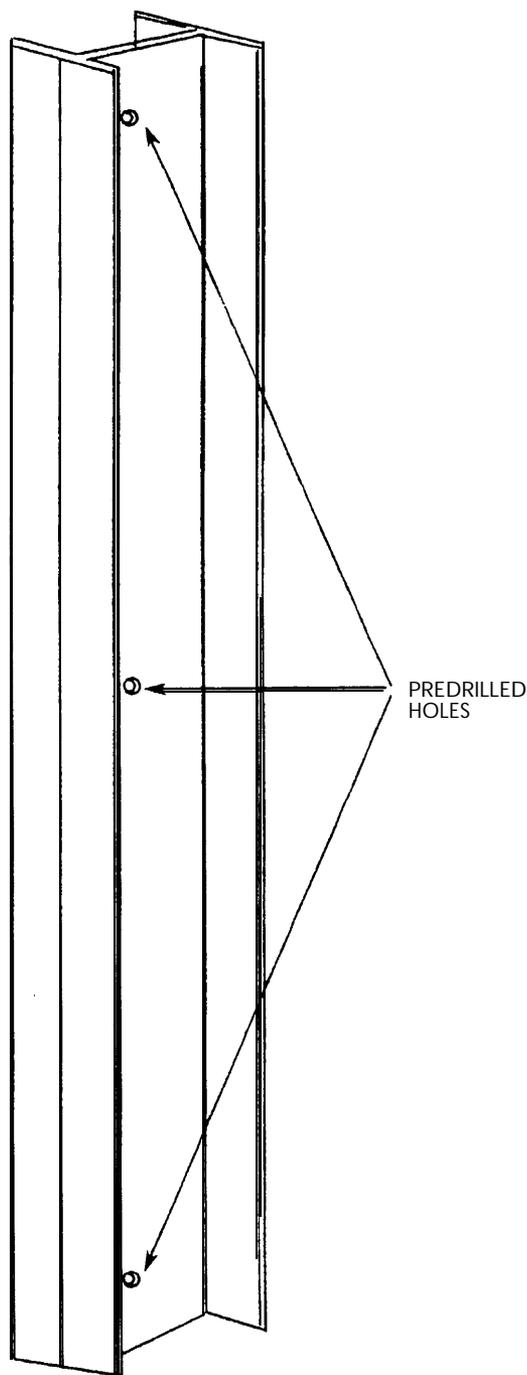

Figure 18. Predrilled Holes in Upright to Allow Joining.
- (c) Form a junction of the bay uprights by placing the 3/8-inch by 16-7/8 inch HHCS and the 3/8-inch by 16-inch hex nuts (Figure 18).